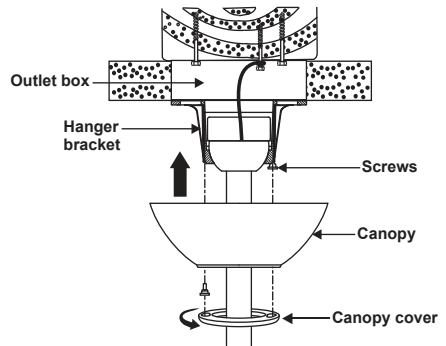

Figure 12
Step 2. Slide the canopy up to hanger bracket and place the key hole on the canopy over the screw on the hanger bracket, turn canopy until it locks in place at the narrow section of the key holes. (Fig.12)